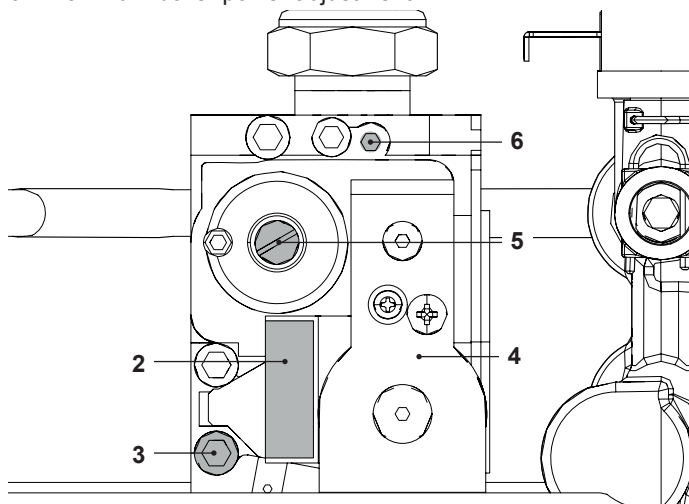
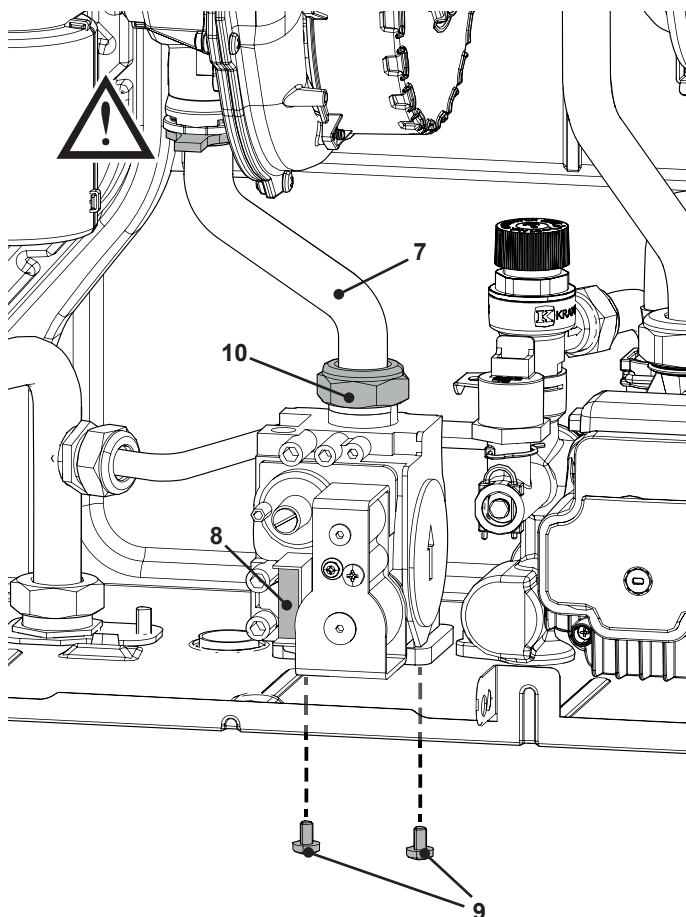

Figure 9.2
Figure 9.17
(Figure 9.2)
- 3 Loosen the internal screw on the Inlet Pressure Test Point "3" (Figure 9.2) of the Gas valve and connect a pressure gauge using a suitable hose.
- 7 Disconnect the pressure gauge and close the Inlet Pressure Test Point "3" (Figure 9.2).
22 To calibrate the boiler CO₂ (gas pressure at the burner) unscrew the protective brass cap “5” completely and turn the underlying Ø 4 mm hex head socket screw Figure 9.2. Turn it clockwise to increase the CO₂.
If the two values do not coincide, turn the RQ maximum adjustment screw (6 in Figure 9.2) for the gas valve and calibrate the CO₂ to the same value specified in the table above.
- 2 Disconnect the electrical connector "2" (Figure 9.2).
- 2 Disconnect the connector "8" (Figure 9.17), see also connector "2" (Figure 9.2).
- 4 Unscrew the connector "10" (Figure 9.17) and remove the pipe "7".
- 5 Unscrew the screws "9" and remove the valve (Figure 9.17).